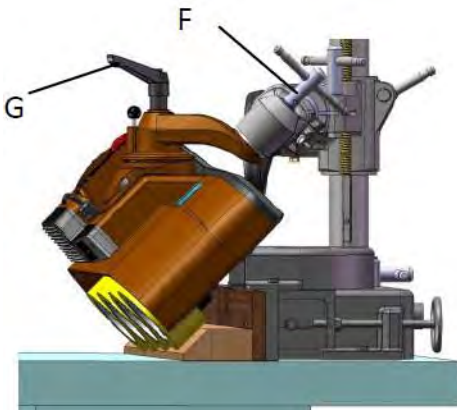

Fig. 34: Feed with angle of inclination
Step 2: Release the clamping levers (Pos. F and Pos. G, Fig. 34), pull the memo lever and swing the feed unit back into the horizontal position. Then swivel the feed unit back into the set working position, check that all rollers are aligned with the workpiece and tighten all clamping levers.